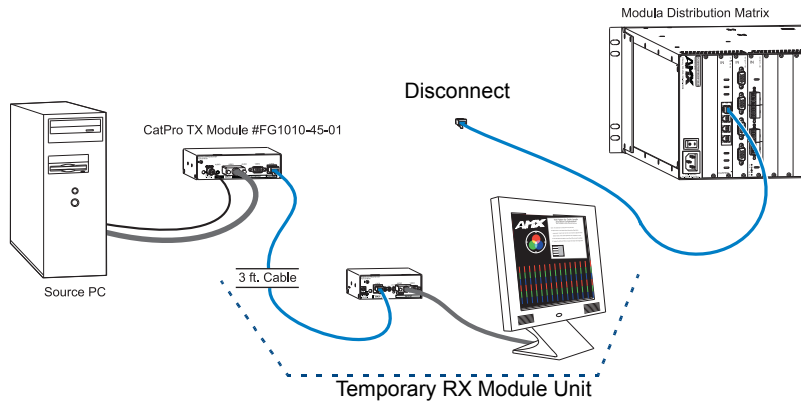

FIG. 58 Connect the Temporary RX Module Unit to the TX Module
2. Connect a TX Module to a Source PC (FIG. 58 on page 90).
3. Connect the Temporary RX Module Unit to the TX Module using the open connector on the 3-foot Cat5e cable (FIG. 58).